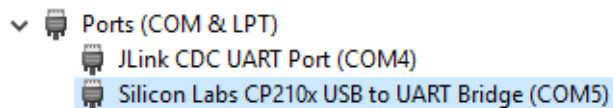

Figure 8. RSL10 Dongle COM Port Number
2. Use the Windows Device Manager to find the COM port number assigned to your RSL10 Dongle, identified by the Silicon Labs USB to UART Bridge (COM5, in the example in Figure 8):